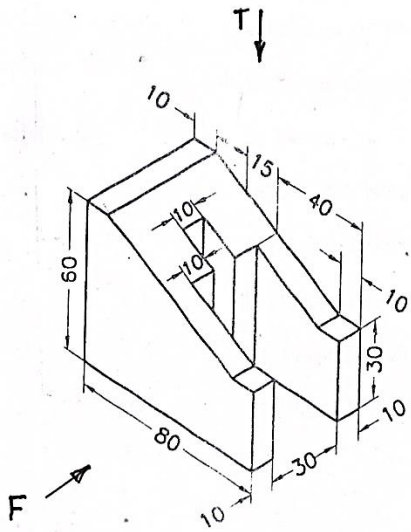

Figure 5.
- V. Pictorial view of a machine block shown in Fig.5. Draw the front view in the direction of Arrow F, top view and also front auxiliary view of the sloping surface.